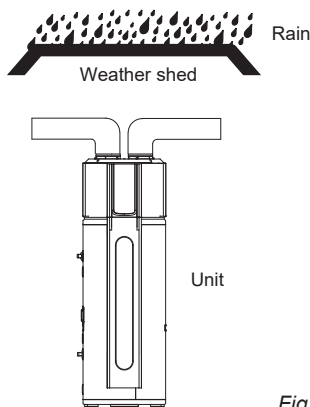

Fig.3-7
- In terms of the unit connect with duct reaching to outdoor, a reliable water-resistant measure must be conduct on the duct, to prevent water from dropping into internal of the unit. (Fig.3-7)